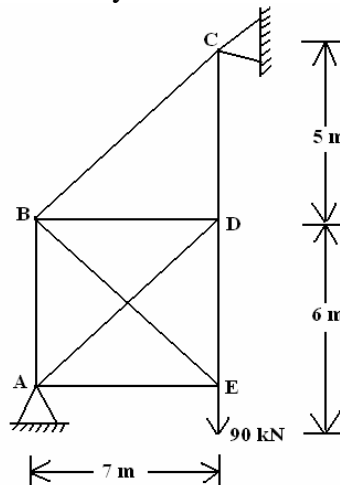

Fig.6
8. Determine the forces in all the members of the truss shown in Fig.6. Take cross sectional areas for AD, BE and BC as 3500 mm^2 and for all other members as 2700 mm^2 . Assume modulus of elasticity = 206 GPa. [16]